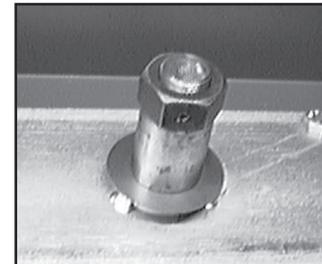

Fig. 5
3.1 Before attaching the chain, you must first ensure the Arm Carriages are at the same height, measured from the columns' Base Plate. If an adjustment is required, remove the dust cover from the top of the Driven column and turn the hex. nut (on top of the column, shown in fig. 5), until the carriage is perfectly in line with that of the Drive Column. Replace the Dust Cover